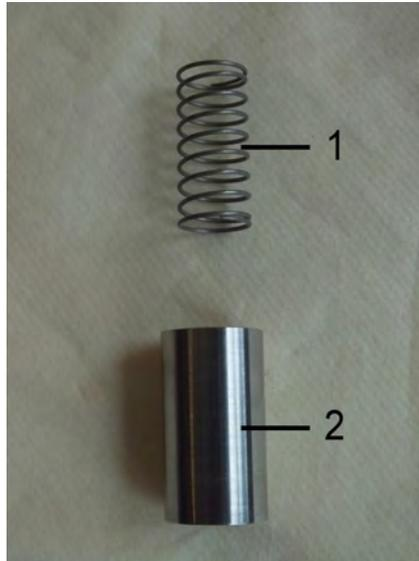

Fig. 38: Spring and float
5. ➤ The inner parts of the flow monitor consist of the spring ( Fig. 38/1) and float ( Fig. 38/2).